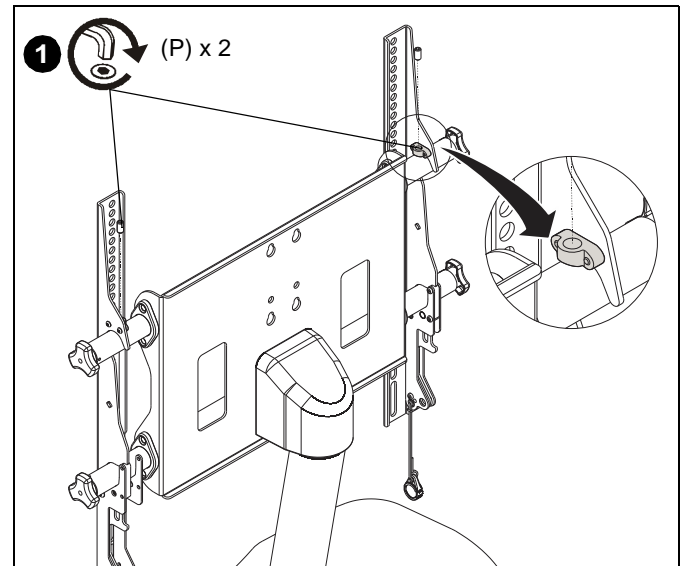

Figure 10
1. Lock screen interface brackets onto mount rails using one 3/8-16 x 3/4" set screw (P) on each interface bracket. (See Figure 10)